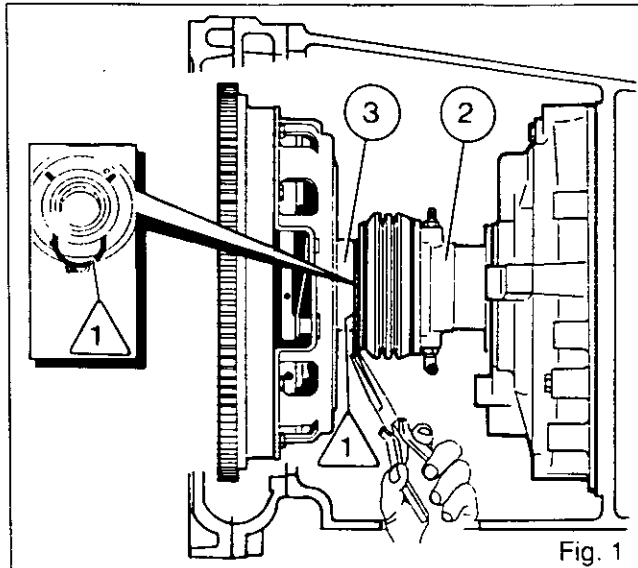

Fig. 1
4. **Remove the pin /1\ connecting the clutch slave cylinder (2) to the release bearing (3) (Fig.1).**